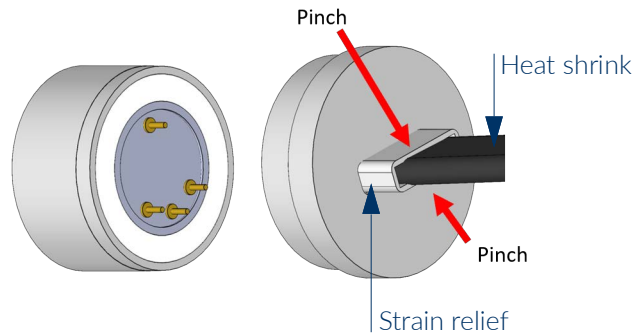

Figure 22. Removing the top sensor assembly
5. Remove the top sensor assembly by pulling on both the strain relief and heat shrink. The PCB will be removed with the top sensor assembly. See Figure 22 on page 29